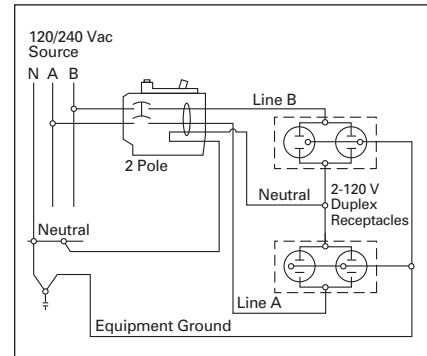
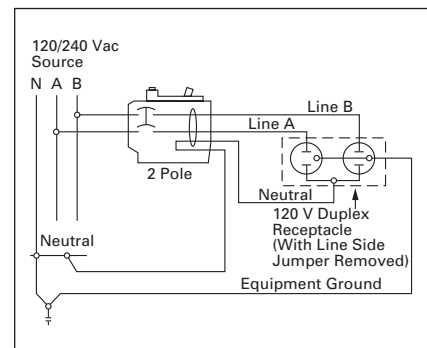

Figure 4-13. 2-Pole Shared Neutral with Multi-Duplex Receptacle Application
Figure 4-15. 2-Pole Shared Neutral with Duplex Receptacle Application
- ② Independent trip refers to 2-pole shared neutral circuits (see Figure 4-13 and Figure 4-15).
- ③ Requires plug-on neutral loadcenter.
- ⑤ Independent trip refers to 2-pole shared neutral circuits (see Figure 4-13 and Figure 4-15).